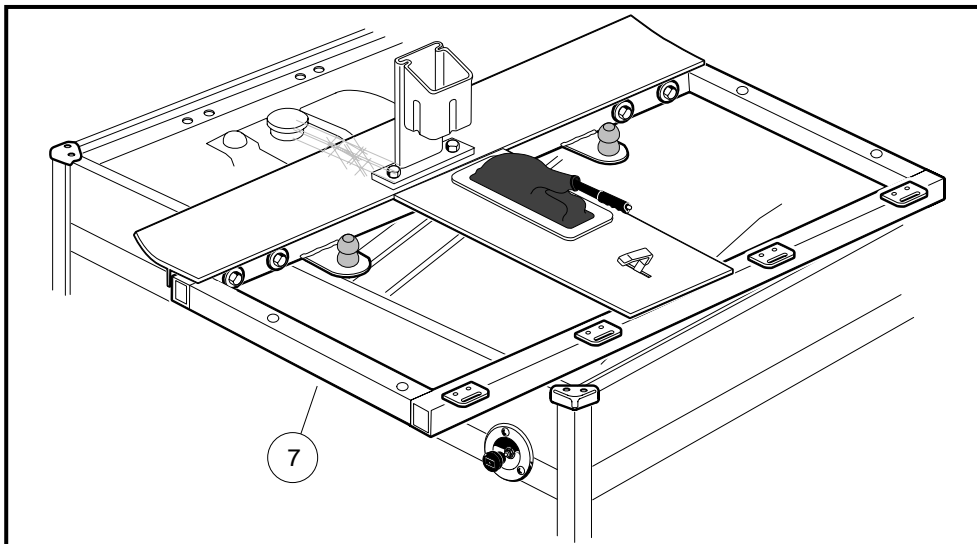

Figure 14-18 Fuel Tank Removal
8. Carefully remove and rotate the seat support (7) 90° clockwise and allow it to rest on the vehicle body as illustrated (**Figure 14-18, Page 14-24**). **See following NOTE.**
- Return the seat support (1) to its original position by rotating it 90° counterclockwise (**Figure 14-18, Page 14-24**) and install the seat support and armrests. Tighten bolts (8) to 13 ft-lb (17.6 N·m) **See Figure 4-2, Section 4, Page 4-7.**